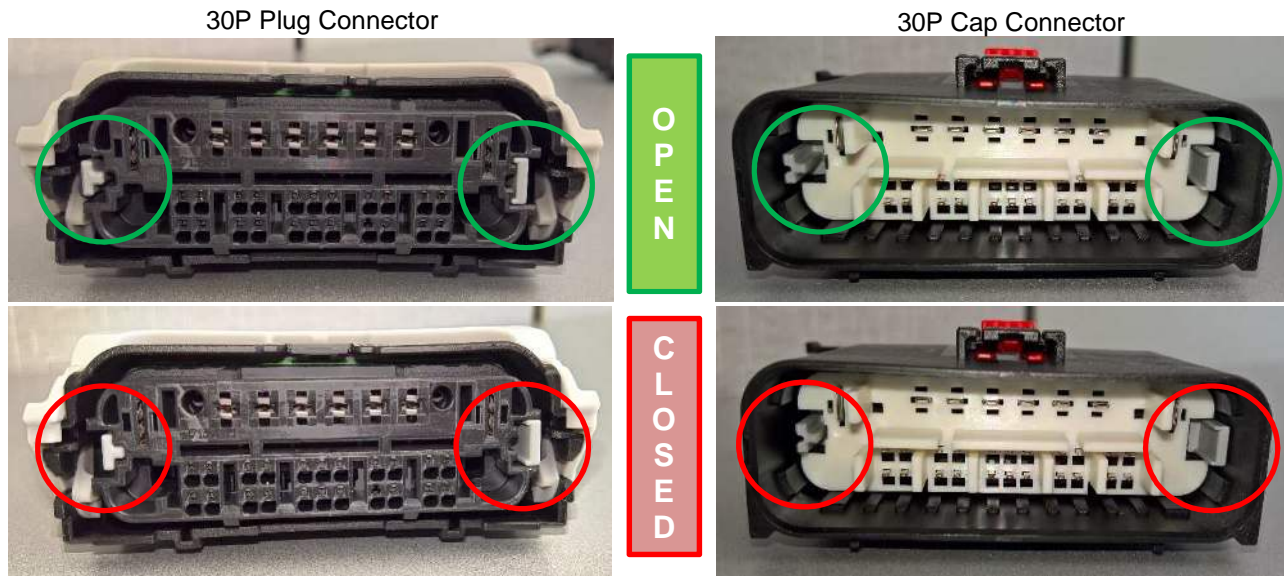

Figure 2
2. Confirm ISLs are positioned in the open position as shown in Figure 2. When viewed in this orientation, with latch/lever up, the ISL should be slid fully to the left. This can be verified by looking at the exposed towers on the ends of the ISL and comparing them to the connector housings, using Figure 2 as a reference. If they are not, refer to Step 1 of Paragraph 4.3.